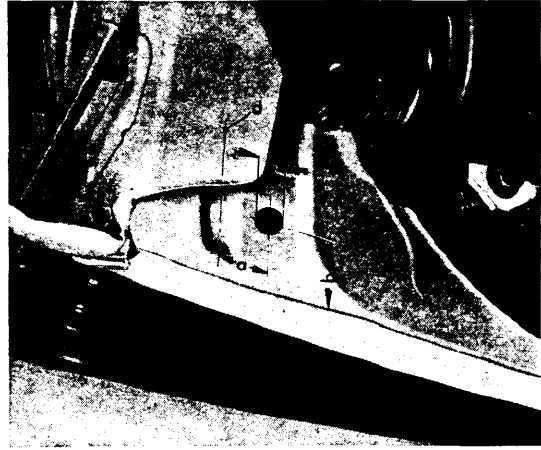

Fig. 6
- 5 - Mark off the hole for the fuel hose in the spare wheel well support to the measurements in Fig. 6.